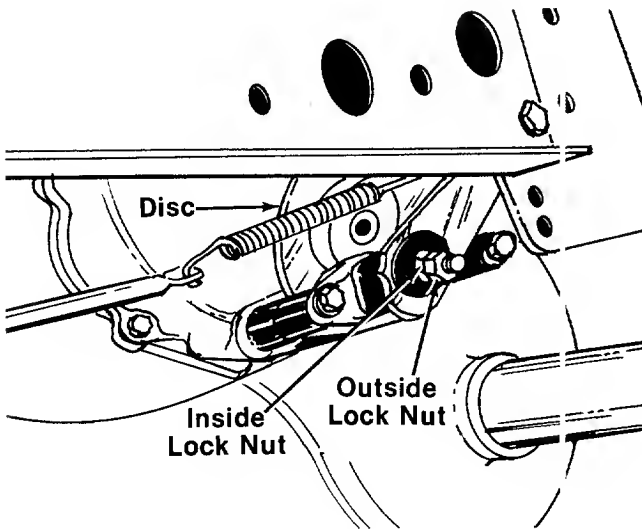

FIGURE 11.
1. Loosen the outside lock nut. See figure 11.